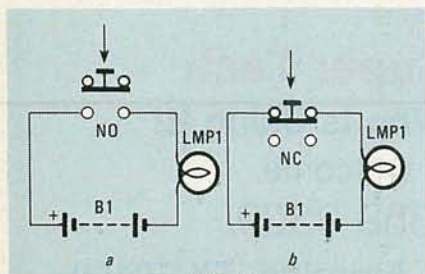

FIG. 3
A momentary switch is one that remains open or closed only as long as it's held down—release it and it "springs" back to its original position. Fig. 3-a shows a normally open (NO) momentary switch and Fig. 3-b shows a normally closed (NC) type.
When the switch in Fig. 3-a is pressed in the direction of the arrow, it completes the circuit, supplying power to the device to which it is connected. The switch in Fig. 3-b works the opposite way. Either switch remains in the position to which it is set only as long as it is held in that position; release it and it reverts to its original position.